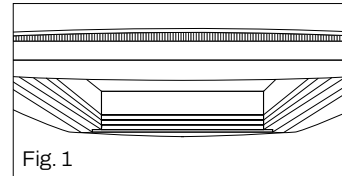
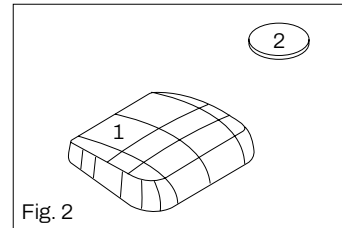

Fig. 1
Fig. 2
- Do not cover skylights fitted with forced air system (Fig. 1) or the mushroom roof vents (Fig. 2) with winter insulation covers